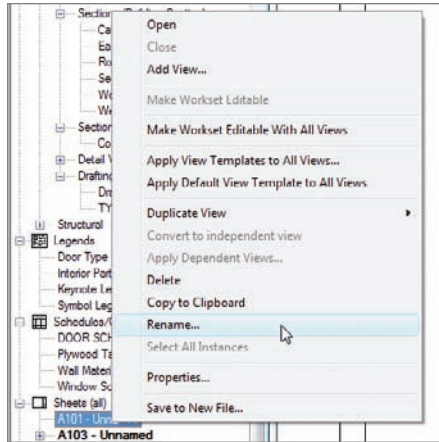

FIGURE 14.4 Renaming the sheet
2. Select Rename, as shown in Figure 14.4.